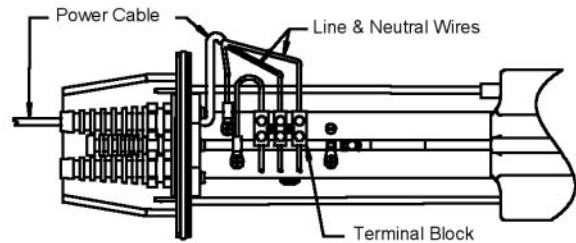

FIGURE 9 Attaching Line and Neutral Wires
4. Connect both the line and neutral wires of the power cord to the terminal block. Make sure the line and neutral wires are connected to the correct positions on the terminal block that are across from the appropriate colored wire. See FIGURE 9.